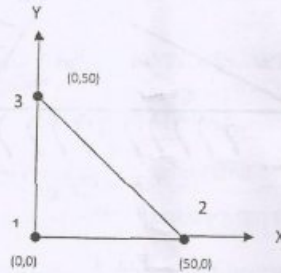

Fig. 3
- (b) For the axisymmetric element shown in Fig. 3 determine the element stresses. Take $E = 210 \text{ GPa}$, $\nu = 0.20$. The nodal displacements are $U_1 = 0.05 \text{ mm}$, $W_1 = 0.03 \text{ mm}$, $U_2 = 0.02 \text{ mm}$, $W_2 = 0.02 \text{ mm}$, $U_3 = 0 \text{ mm}$, $W_3 = 0 \text{ mm}$. The co-ordinates are in millimeters.